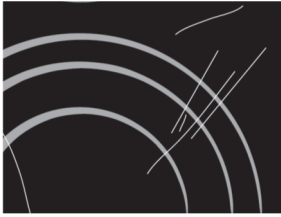

Fig.1
Before each use wipe any dust or other particles from the surface and pan bottom as these could scratch the surface (Fig.1).
- can scratch the surface (Fig.1 and Fig.2).